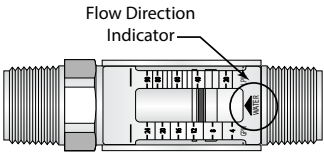

Figure 3: Flow direction indicator
These meters accept flow in one direction. Align the *Flow Arrow*, located on the bottom of the meter's flow scale, in the same direction as the anticipated line flow. See *Figure 3*.
3. Thread the flow meter and coupling onto the inlet pipe and hand tighten. Make sure the flow direction arrow on the flow meter corresponds with the system flow direction. See *Figure 3*.
6. Make sure the flow direction arrow on the flow meter corresponds with the system flow direction. See *Figure 3 on page 6*. Lubricate the union O-ring and connect the union together.
7. Place the flow meter in between the two installed brass fittings. Make sure the flow direction arrow on the flow meter corresponds with the system flow direction. See *Figure 3 on page 6*. Thread the two brass hex couplers into the flow meter body.
8. Place flow meter between the two installed fittings. Make sure the flow direction arrow on the flow meter corresponds with the system flow direction. See *Figure 3 on page 6*. Thread the two hex couplers onto the flow meter body.
2. Thread the inlet of the flow meter onto the appropriate pipe connection. Make sure the flow direction arrow on the flow meter corresponds with the system flow direction. See *Figure 3 on page 6*.